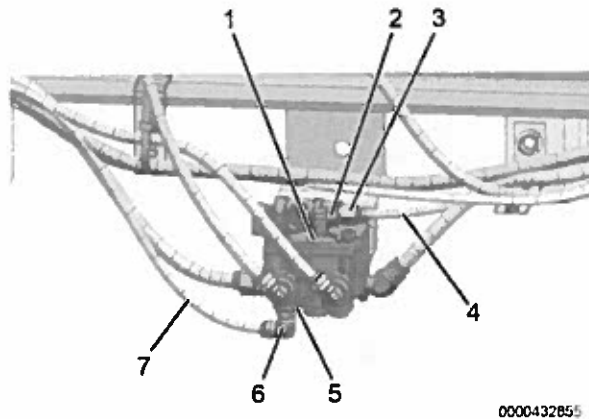

Figure 3. ATR-6 Valve Line and Fitting Removal
12. Disconnect ORANGE 3/8-inch airline (Figure 3, Item 7) from 3/8-inch elbow (Figure 3, Item 6) of ATR-6 steer axle delivery port (Figure 3, Item 5).
13. Remove and discard 3/8-inch airline elbow (Figure 3, Item 6) from ATR-6 steer axle delivery port (Figure 3, Item 5).
14. Disconnect ORANGE 3/8-inch airline (Figure 3, Item 4) from 3/8-inch fitting (Figure 3, Item 3) of ATR-6 control port (Figure 3, Item 2).
15. Remove and discard 3/8-inch fitting (Figure 3, Item 3) from ATR-6 control port (Figure 3, Item 2)